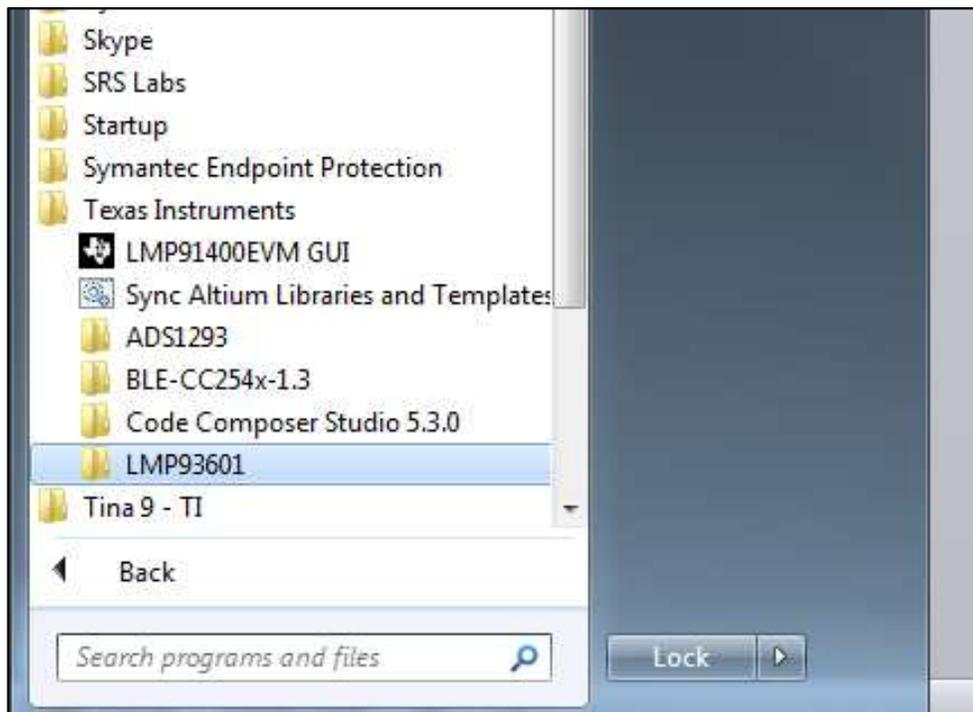

Figure 3. The LMP93601 GUI Installation
Step 4. Click on Start tab, to open the “All programs” menu. Click on “Texas Instruments” subdirectory as shown in Figure 3. Then, on the LMP93601 subdirectory. Click on the “LMP93601 GUI” (see Figure 3) to run the program in the host PC.